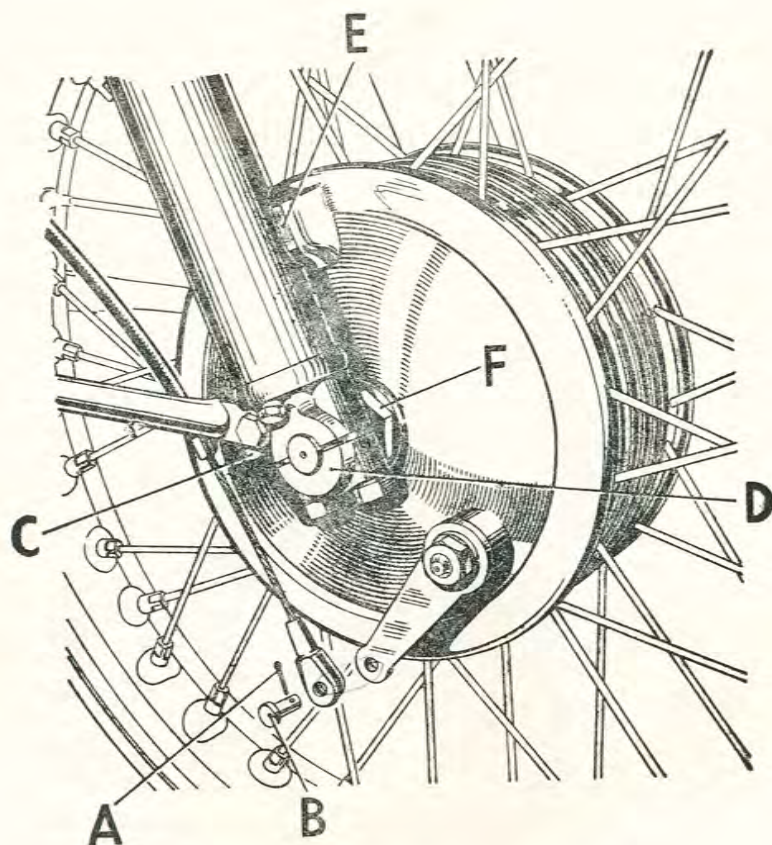

Fig. 17. Removing the Front Wheel.
Place a box or similar article underneath the crankcase so that the front wheel is clear of the ground. Disconnect the brake cable by removal of split pin (A) Fig. 17, and fulcrum pin (B) at the cable end, and withdraw the cable from its abutment (C) on the lower end of the fork leg, in which it is a push-fit. Now remove the end caps (D), and as the last bolts are removed, support the wheel so as to avoid damage either to bolts or their sockets.